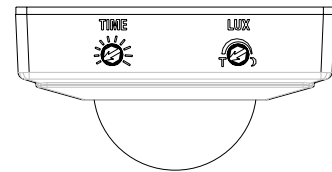

FIGURE 6
**(1) TEST MODE**
- Turn the Lux control and the Time control counter-clockwise to the edge-the TEST position. (FIGURE 6)